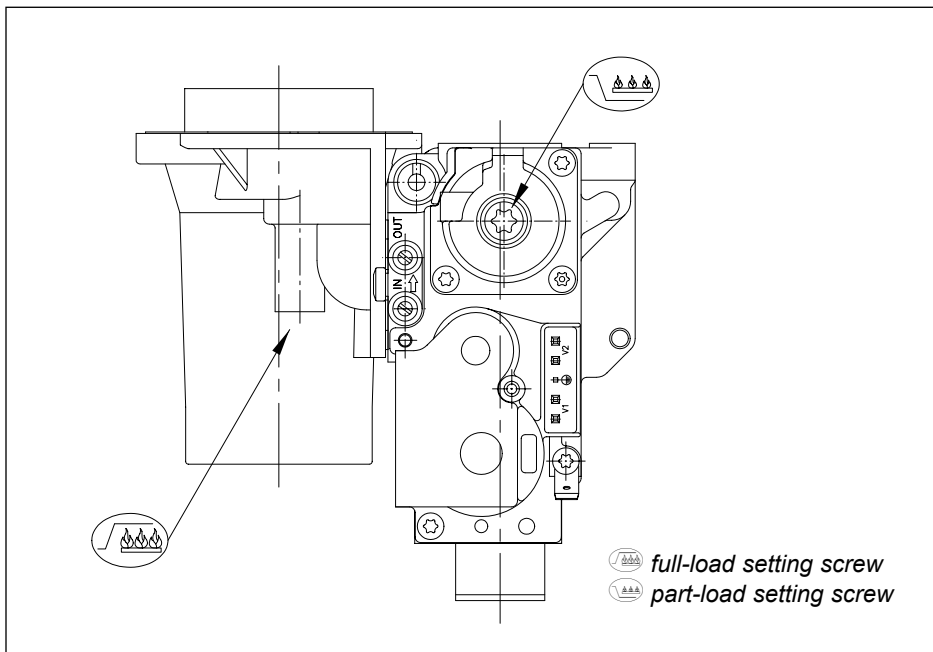

Fig. 20 Setting screws
- 18.3. When full-load speed is reached, check values against the table and adjust if necessary using the  screw on the venturi (see Fig. 20).
- 18.6. When part-load speed is reached, check values against the table and adjust if necessary using the  screw on the combi valve (see Fig. 20).